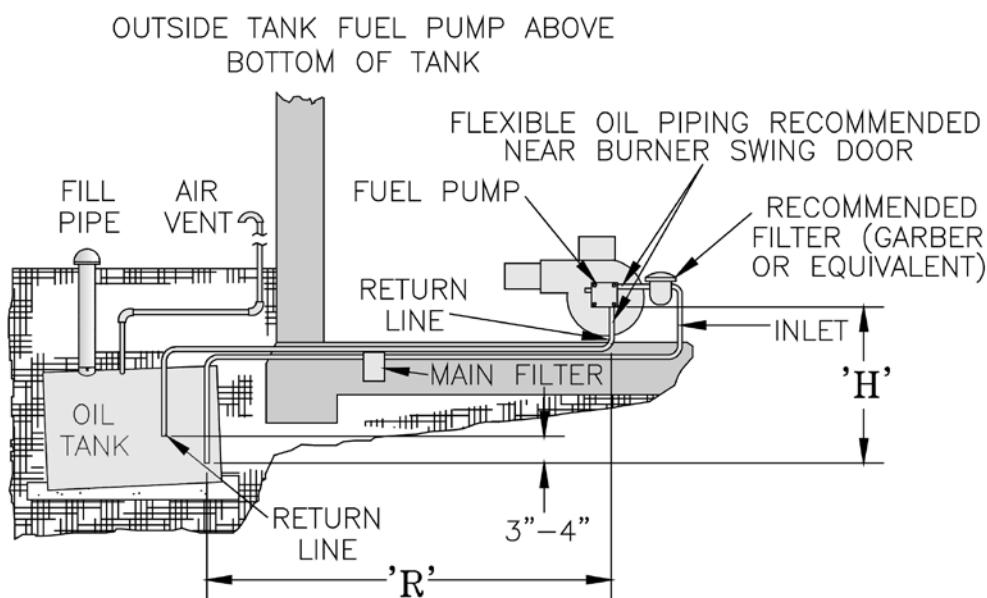

Figure 24: Two Pipe Oil Lines
- For two piped systems, where more lift is required, the two-stage fuel unit is recommended. Table 9 (two-stage) and Table 10 (single-stage) show allowable lift and lengths of 3/8 inch and 1/2 inch OD tubing for both suction and return lines. Refer to Figure 24.
Lift "H" (See Fig. 22)	Maximum Length of Tubing "H" + "R" (See Figure 24)
Lift "H" (See Fig. 21)	Maximum Length of Tubing "H" + "R" (See Figure 24)